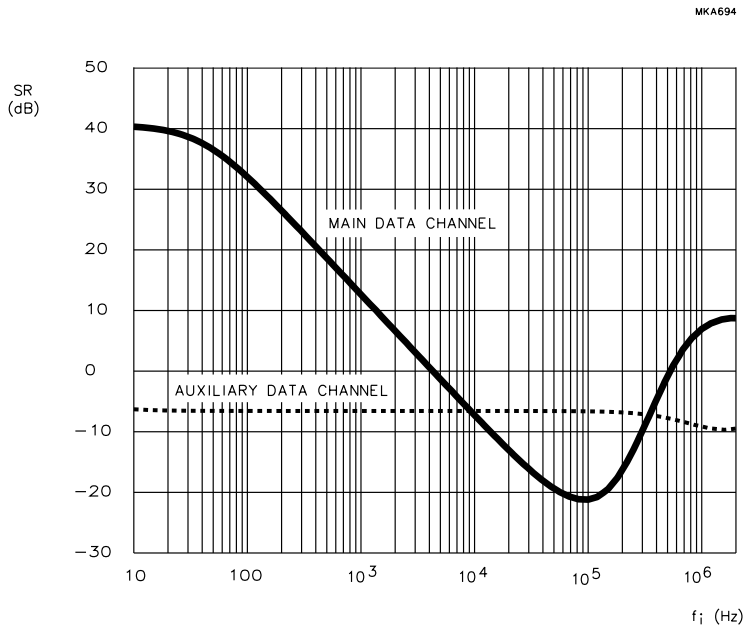

Fig.6 Typical supply rejection of main data and auxiliary data channel (AGC off).
- See Figs 6 and 7 for typical supply rejection.